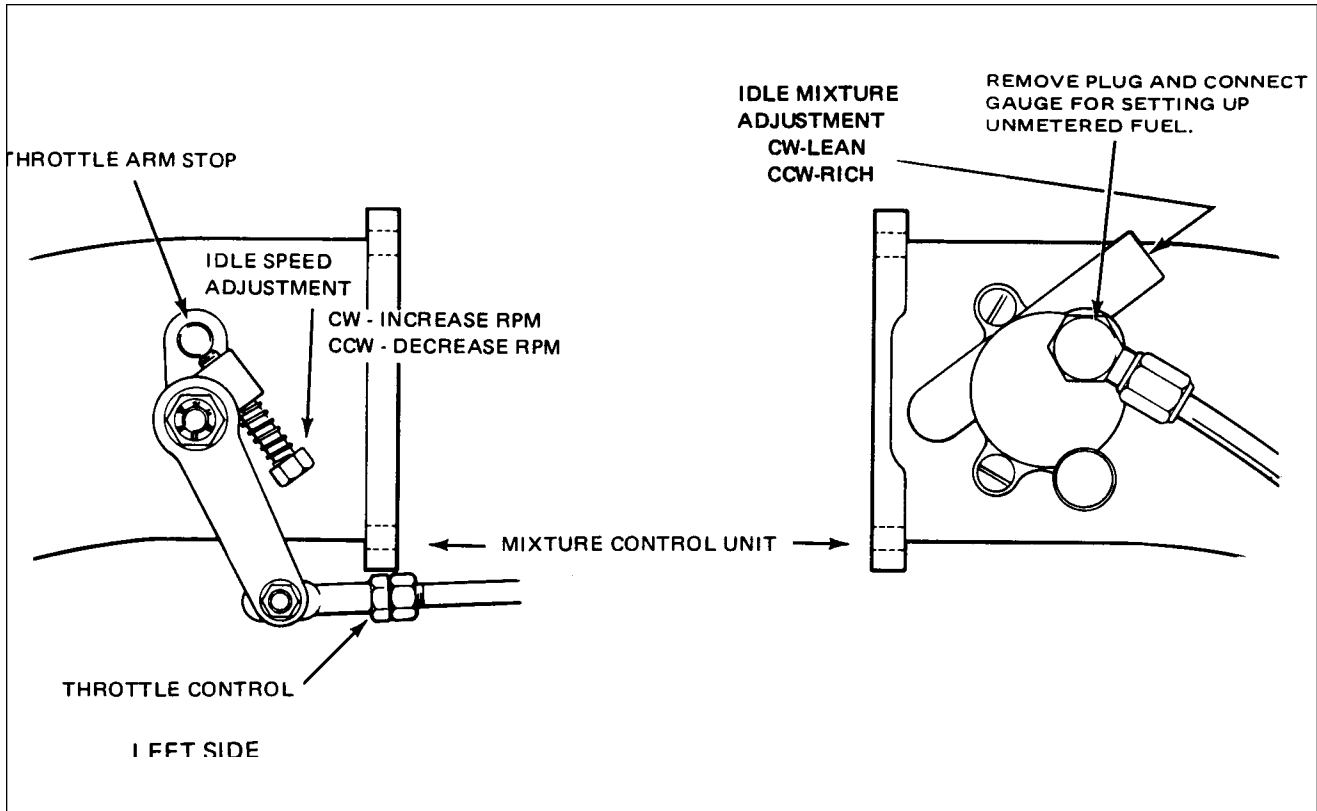

Figure 8-34. Idle Speed and Mixture Adjustment Points
1. Remove the cap from the tee fitting on the right side of the throttle body. (Refer to Figure 8-34.)
1. Back off the idle speed adjusting screw two turns. (Refer to Figure 8-34.)
- e. Check and Adjustment of Idle Mixture: (Refer to Figure 8-34.)
- f. Check and Adjustment of Idle Speed: (Refer to Figure 8-34.)